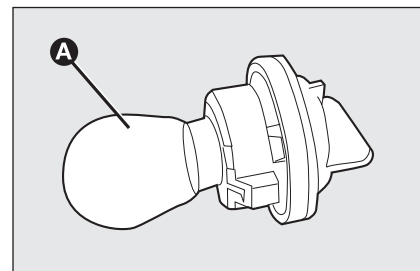

fig. 26
- ☐ remove the bulb **A**-fig. 26 and replace it;